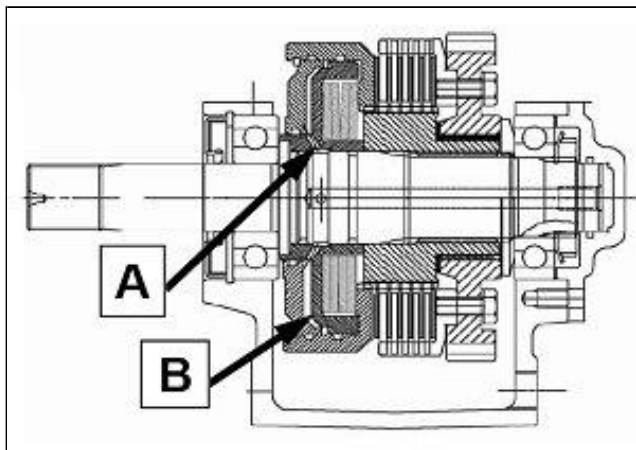

Fig.103
In Fig. 103 is represented the internal circuitry of the four-wheel drive input clutch (DT).
The oil reaches the pressure of 42 bar dispatched by the solenoid valves described in the previous pages through the hole **A** of Fig. 103 in the chamber **B**.